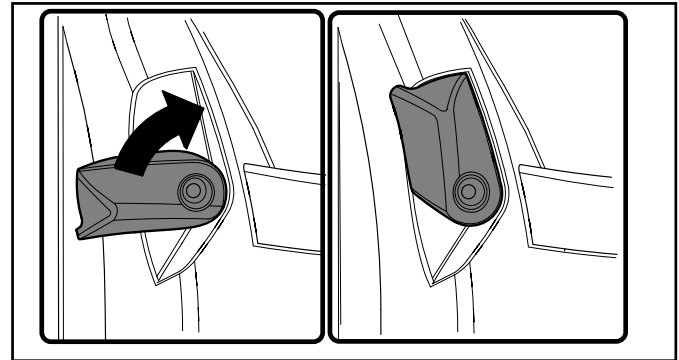

Figure 14
Step 4: Rotate latches to secure door as shown in Figure 14.